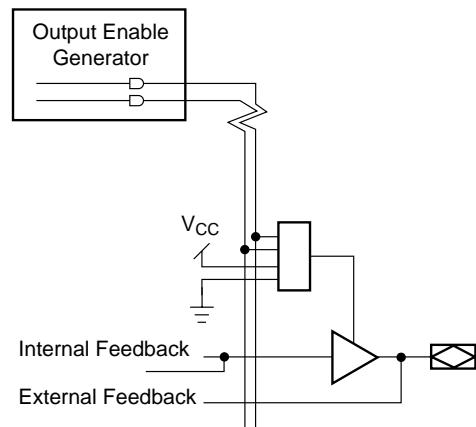

Figure 6. Output Enable Generator and I/O Cell
There is one output enable (OE) generator per PAL block that generates two product-term output enables. Each I/O cell is simply an output buffer. Each I/O cell within the PAL block can choose to be permanently enabled, permanently disabled, or choose one of the two programmable output enables per PAL block (Figure 6).